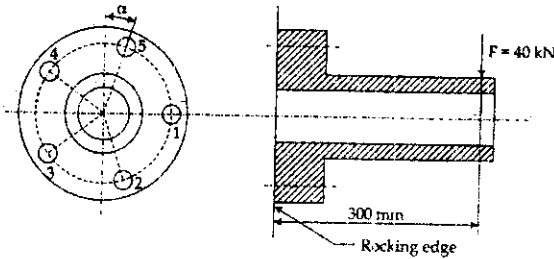

Fig.Q4(b)
- b. A flanged bearing is shown in Fig.Q4(b) is fastened to a frame by five bolts spaces equally on bolt circle of 300 mm diameter. The diameter of the flange is 400 mm load is 40 kN. Taking the safe tensile stress for bolt material as 60 MPa. Determine the size of the bolts. (10 Marks)